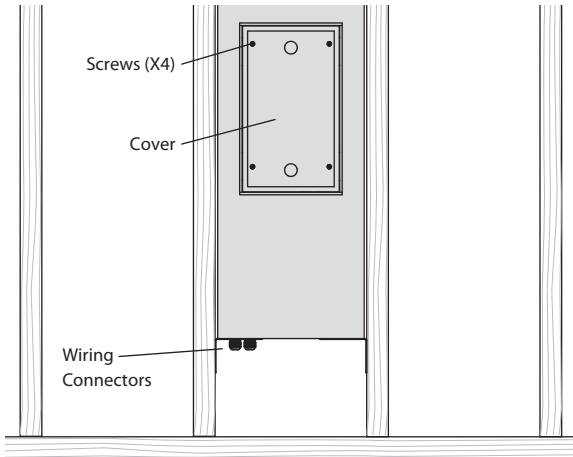

Fig. 3. Cover Removal
1. Remove the cover from the back can by undoing the four screws holding it in place (Fig. 3).